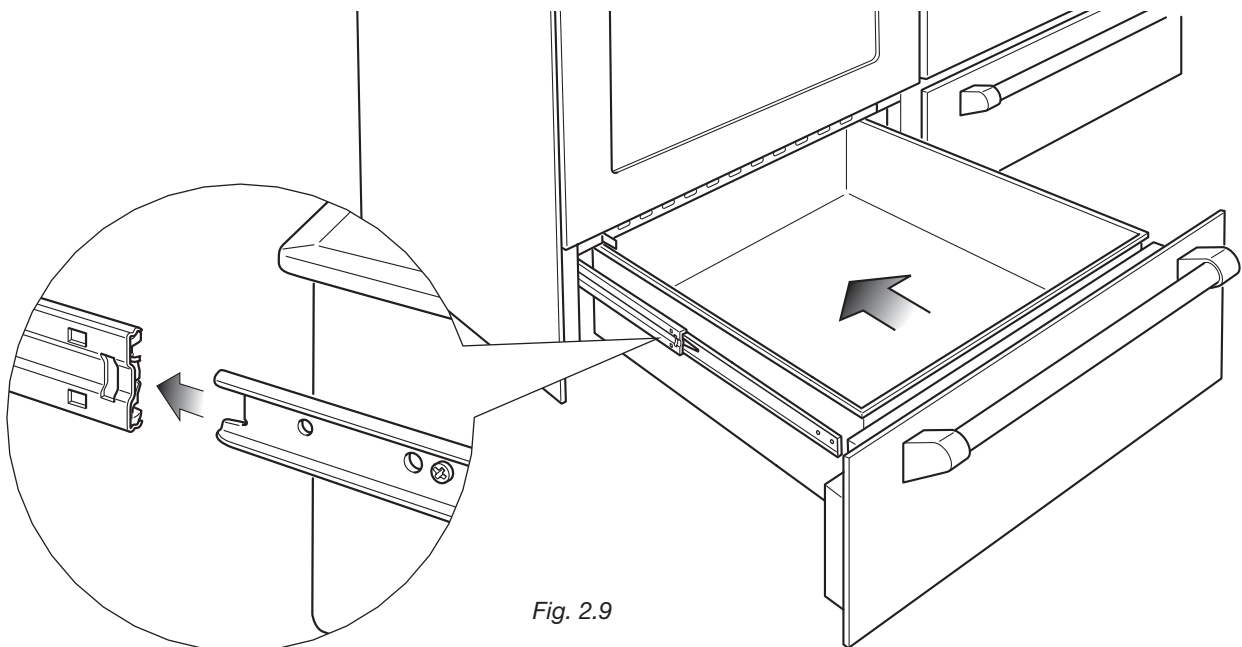

Fig. 2.9
Fitting the warming drawer (fig. 2.9):
1. Insert the drawer guides into the range guides (fig. 2.9)